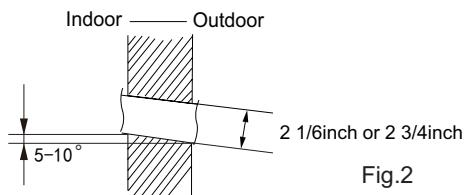

Fig.2
(2) Open a piping hole with the diameter of 2 1/6 or 2 3/4inch on the selected outlet pipe position.In order to drain smoothly, slant the piping hole on the wall slightly downward to the outdoor side with the gradient of 5-10°.(As show in Fig.2)